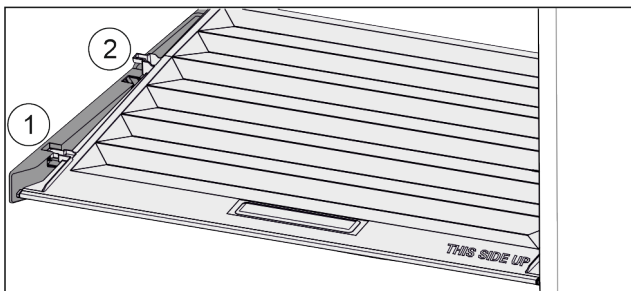

Fig. 28
- ▶ Pull the lid up at the front in the retaining parts to the opening Fig. 28 (1).
- ▶ Lift from the back and pull it up and out Fig. 28 (2).